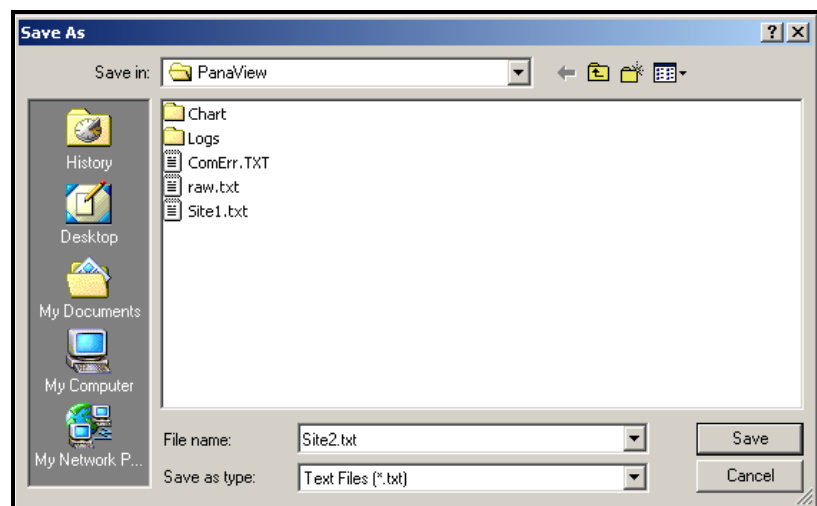

Figure C-13: Save As Window
To *save* the raw signal, click *Save*. A window opens similar to Figure C-13 below. Enter the desired name, and click *Save* to save the signal as a text file.
2. Click *Save Site to PC*. A window opens similar to Figure C-13 on page C-11.